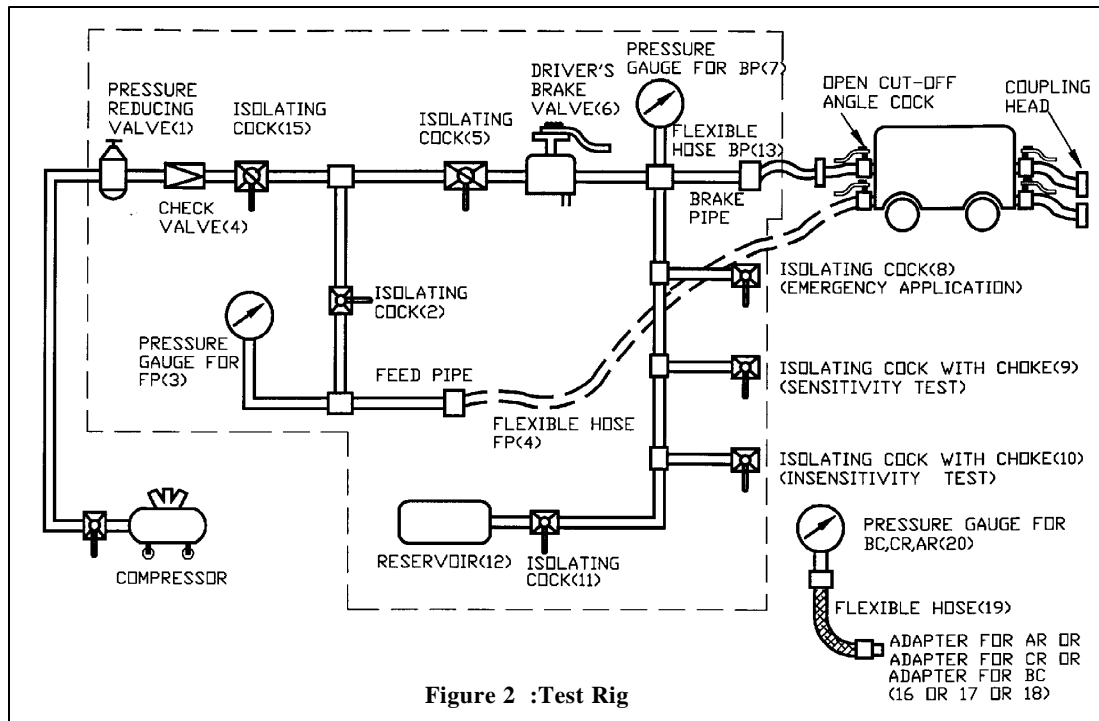

Figure 2 :Test Rig
Rake Test can be performed, by using a portable device called 'Test Rig' or by a locomotive. The source of compressed air supply to the test rig is through a compressor installed in the sick lines . A schematic layout of 'Test Rig' is shown in figure 2.
b) Procedure (see figure 2)